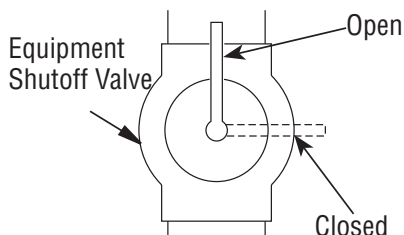
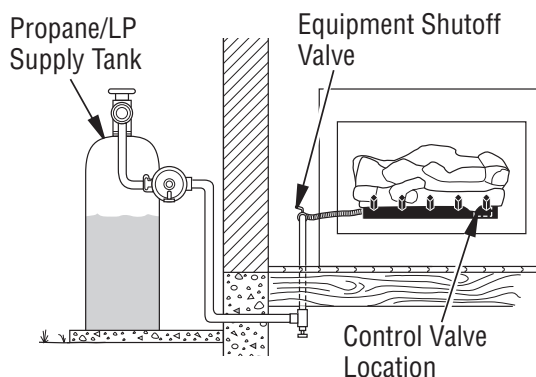
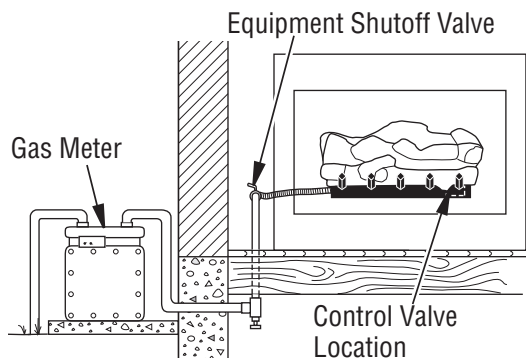

Figure 14 - Equipment Shutoff Valve
Figure 15 - Checking Gas Joints (Propane/LP Only)
Figure 16 - Checking Gas Joints (Natural Gas Only)
1. Close equipment shutoff valve (see **Figure 14**).
3. Check all joints from gas meter to equipment shutoff valve for natural gas or propane/LP supply to equipment shutoff valve for propane/LP (see **Figure 15** or **Figure 16, Page 16**). Apply noncorrosive leak detection fluid to all joints. Bubbles forming show a leak.
1. Open equipment shutoff valve (see **Figure 14, Page 15**).
4. Check all joints from gas meter to equipment shutoff valve for natural gas or propane/LP supply to equipment shutoff valve for propane/LP (see **Figure 14, Page 15 Or Figure 16**). Apply noncorrosive leak detection fluid to all joints. Bubbles forming show a leak.